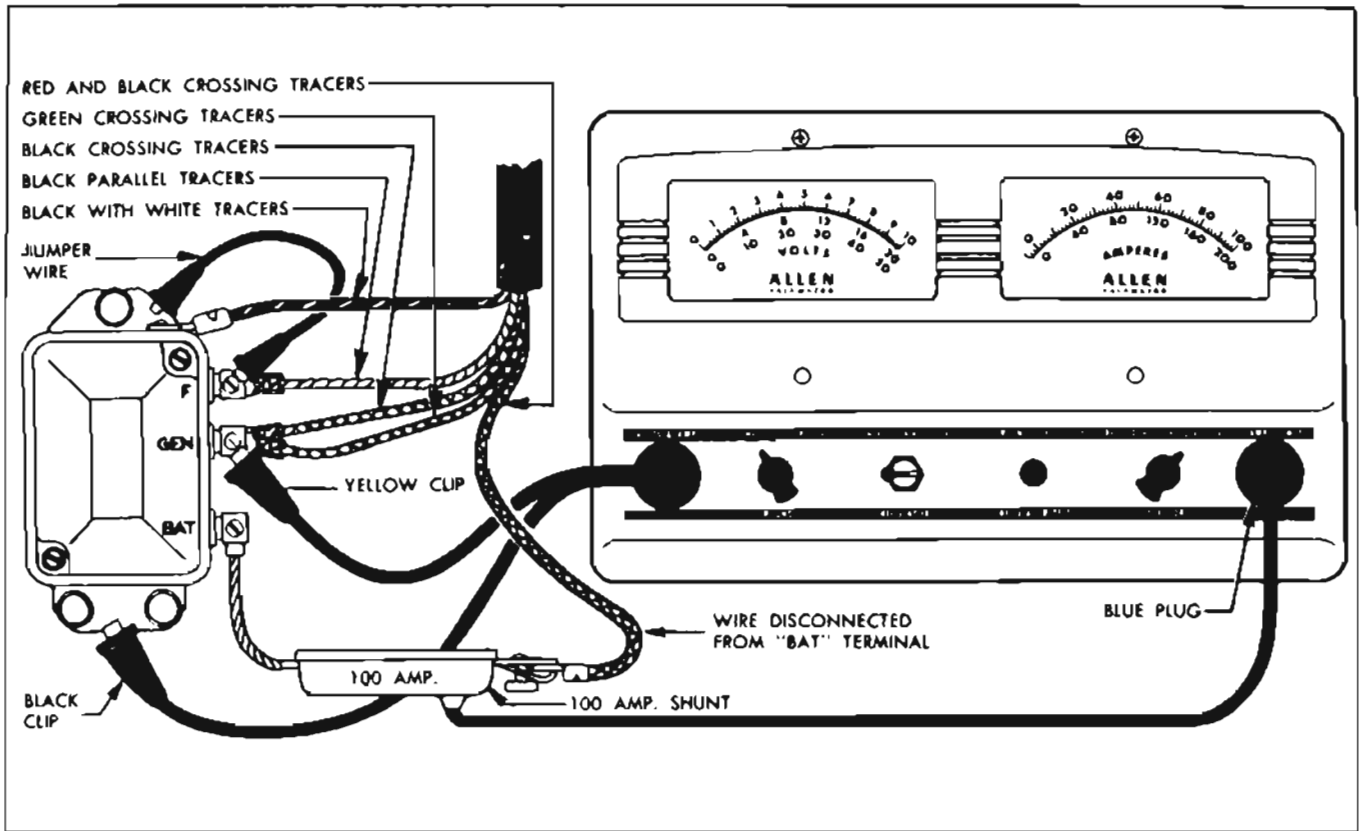

Figure 10-21—Cutout Relay Test Connections—Allen Volt-Ampere Tester
3. Disconnect wire from regulator terminal marked "BAT" and attach flexible lead of 100 AMP. SHUNT to the "BAT" terminal of regulator. Attach the disconnected battery wire to opposite end of the SHUNT. See figure 10-21.
4. Insert RED plug of voltmeter lead into "VOLTS & AMPS" socket of tester, connect YELLOW clip of lead to regulator terminal marked "GEN", and connect BLACK clip to ground on base plate of regulator. See figure 10-21.
(a) Reconnect the 100 AMP. SHUNT as shown in figure 10-21, but do not connect the jumper wire nor the voltmeter lead (yellow and black clips).